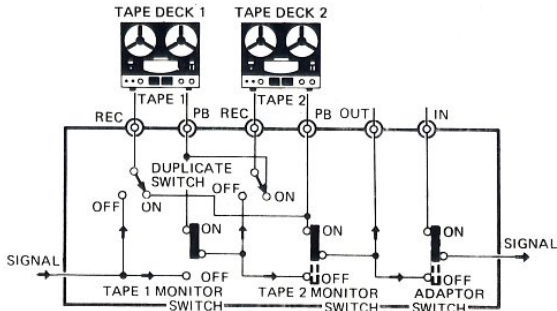

Fig. 17
1. Connect the two tape decks as shown in Fig. 17.
4. When recording with tape deck 1, TAPE MONITOR switch 1 should be switched ON to monitor the sound being recorded, and when recording with tape deck 2, TAPE MONITOR switch 2 should be switched ON for monitoring (refer again to Fig. 17).